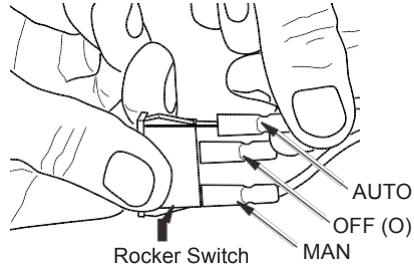

Figure 15 - Connecting Wires to Rocker Switch
16. Connect the AUTO, OFF, MAN wires to the three corresponding male tabs on the rocker switch (see Figure 15).